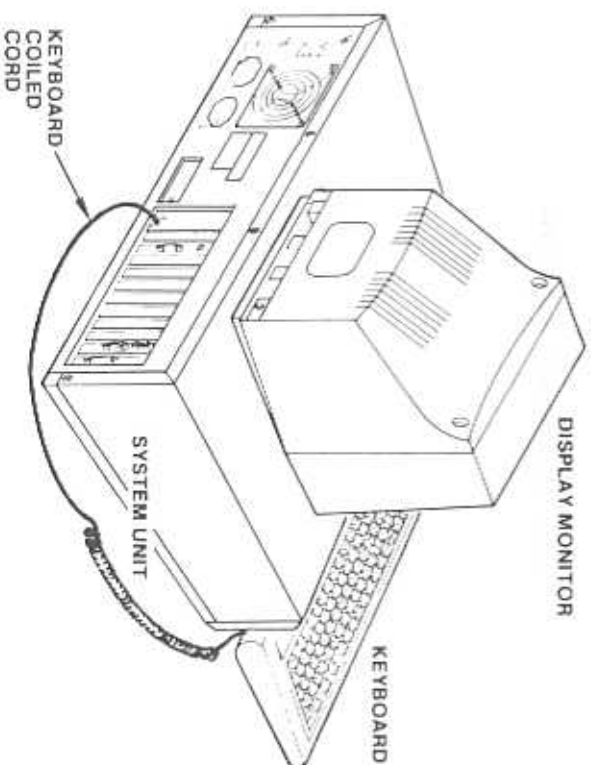

Figure 3-14. Connecting the Keyboard to the System Unit
2. Connect the keyboard to the system unit by plugging the coiled cord from the keyboard into the rear of the system unit as shown in Figure 3-14.